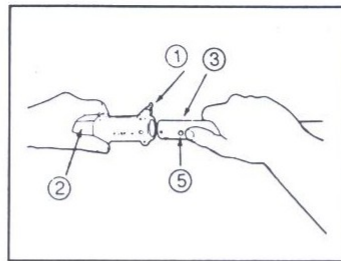

Fig. 5
2. Remove the protective cover from the lower boom and push it into the coupler (Fig 5).